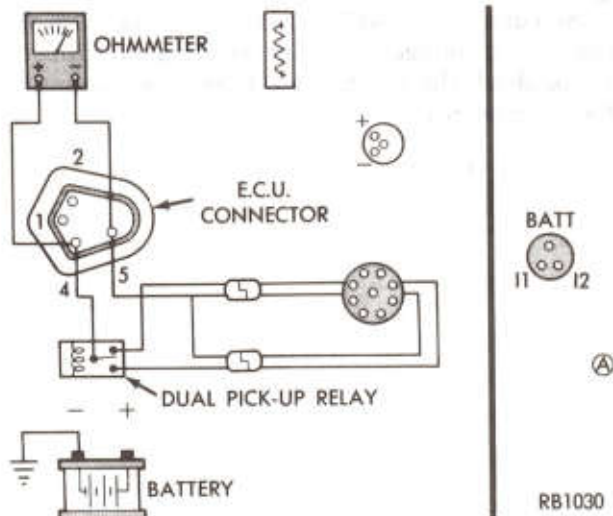

Fig. 10—Checking Resistance Between Cavities "4" and "5"
(19) If voltage is obtained in Step (17) turn ignition switch off and with an ohmmeter check resistance between cavities 4 and 5 of ECU harness connector (Fig. 10). It should be between 150 and 900 ohms. If it is go to Step (21).